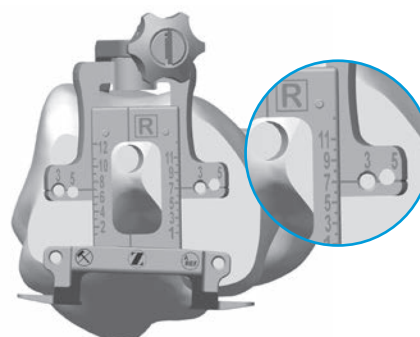
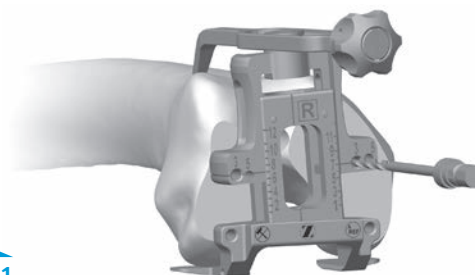

Fig. 40
Fig. 41
- After the sizer is appropriately positioned on the femur, read the femoral size from the engraved lines on the sizer tower and select the closest size (Fig. 40). There are six even-sizes labeled on the left side of the tower and six odd-sizes labeled on the right side of the tower, with lines indicating the in-between sizes. The 3° or 5° holes in the midline of the A/P portion of the sizer are used to drill 3.2mm holes for pegs on the Anterior Referencing 4-in-1 Femoral Cut Guide (Fig 41). A 3.2mm pin may be placed in the first drilled hole to maintain an “index” position prior to drilling the second hole. Remove the screws, then remove the sizer.